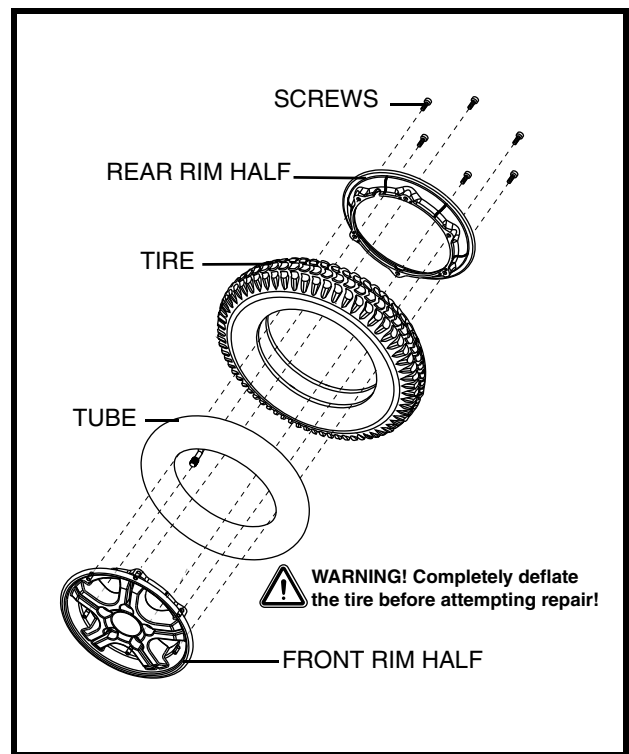

Figure 21. Drive Wheel Assembly
6. Remove the bolts and separate the rim halves. **See figure 21.**
8. Reassemble the rim halves. **See figure 21.**